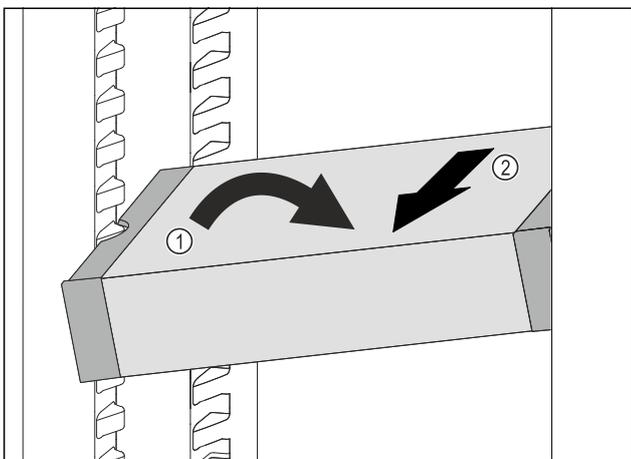

Fig. 106
- ▶ Set VarioSafe in refrigerator compartment at an angle. Fig. 106 (1)
- ▶ Take VarioSafe out to the front. Fig. 106 (2)